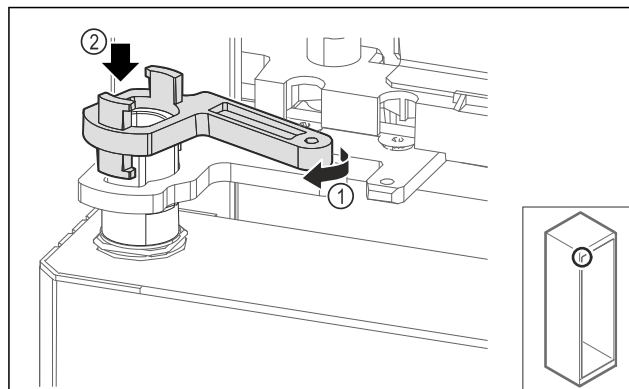

Fig. 62
- Turn the swap bearing block lock slightly and Fig. 62 (1) place it on the sleeve Fig. 62 (2).